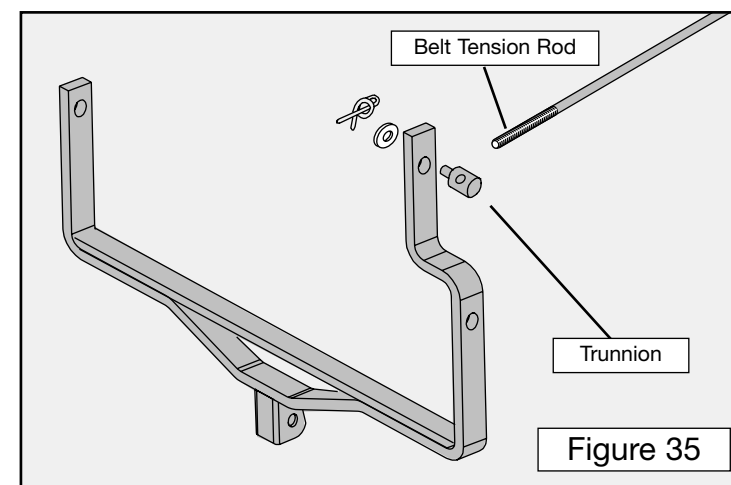

Figure 35
3. Remove the Spring Clip and washer holding the Trunnion in place on the Deck Tension Cradle (Figure 35) and release the Trunnion so it can be turned.